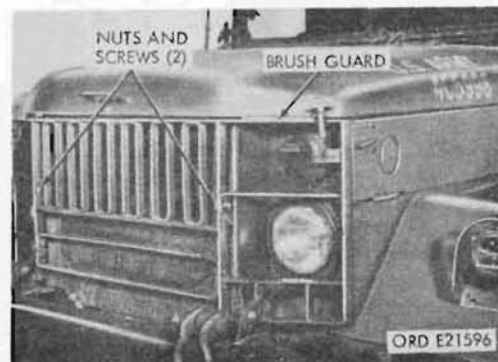

Figure 134. Brush guard - installed
- (1) **Tilt brush guard.** Loosen two safety nuts on screws securing the brush guard braces (fig. 134), one at each guard inner vertical bar, and remove the braces from the guard. Tilt the guard forward.